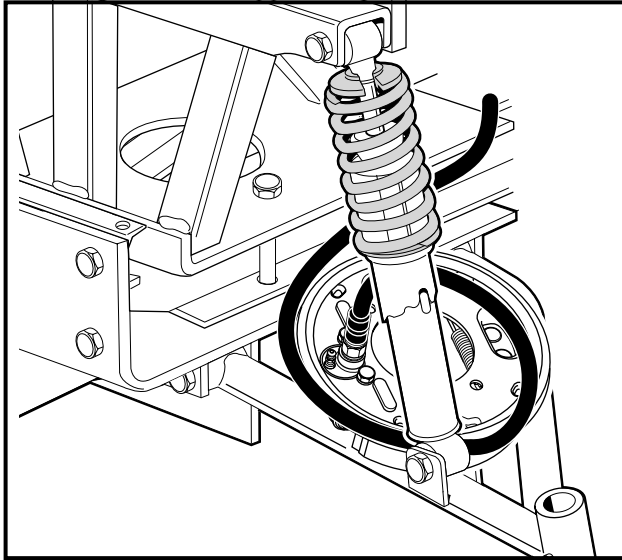

Figure 7-28 Rest Brake Cluster on A-arm
4. Rest the brake cluster on the A-arm as shown (**Figure 7-28, Page 7-17**). Ensure that there is no strain on the brake hose. **See following WARNING.**